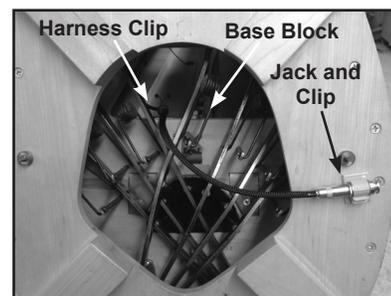

Figure 8 – Using the Jack Clip
1. Route the free end of the pickup harness and the jack down through the hole in the base block and pedal box (see figure 8). (If your harp does not have this hole, you will probably need to mount the jack inside the lowest sound hole instead.)
2. Apply the adhesive-backed jack clip to the bottom of the pedal box on the right side, just forward of the A pedal. Place an extra harness clip on the edge of the base block to position the wiring harness to keep it clear of the pedals and pedal springs (see figure 8).